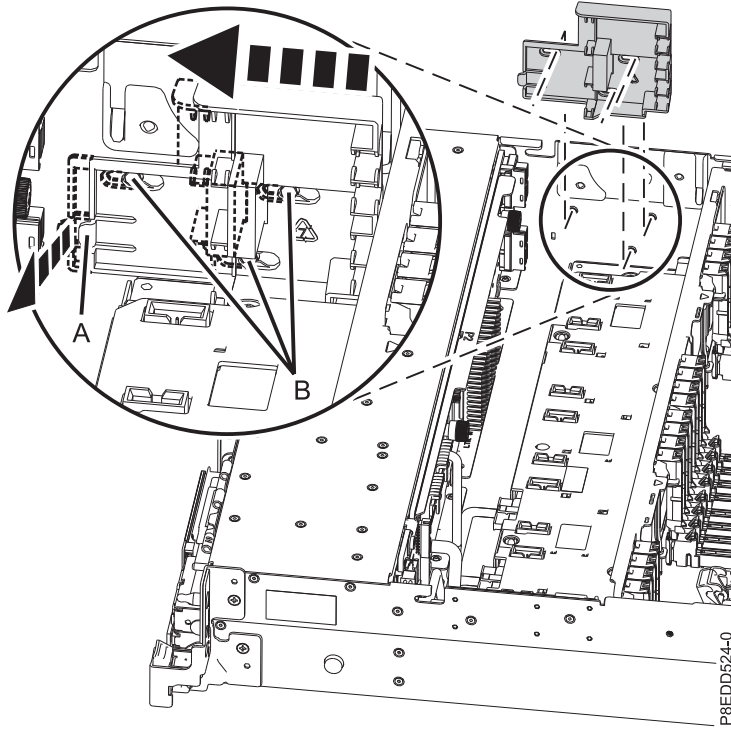

Figure 10. Removing SAS cable guide
21. Remove the SAS cable guide. Grasp the tab (**A**) of the guide and pull it out and away from the side of the chassis. Pull the guide toward the front of the system until the slots on the guide clear the pins (**B**) on the side of the chassis, then remove the guide. See Figure 10 on page 13.